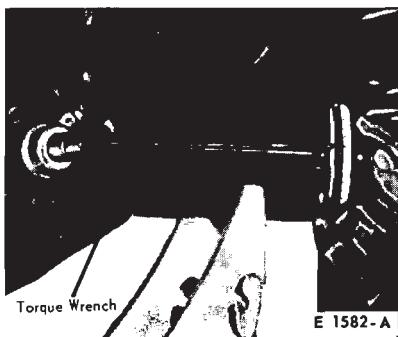

FIG. 21—Checking Pinion Bearing Preload
9. Adjust the bearing preload to specification. Measure the preload with the tool shown in Fig. 21.